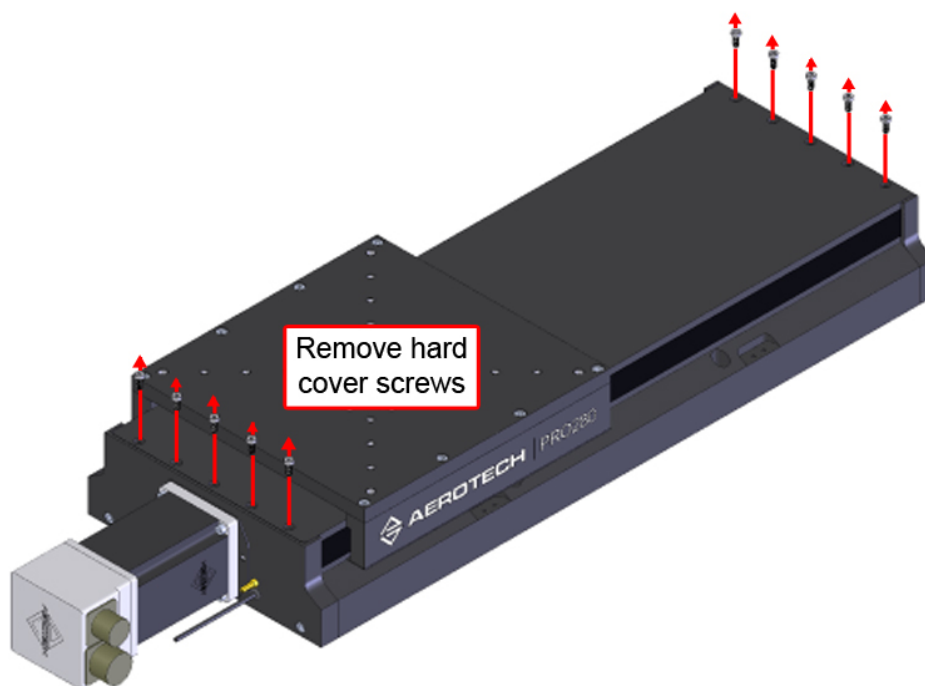
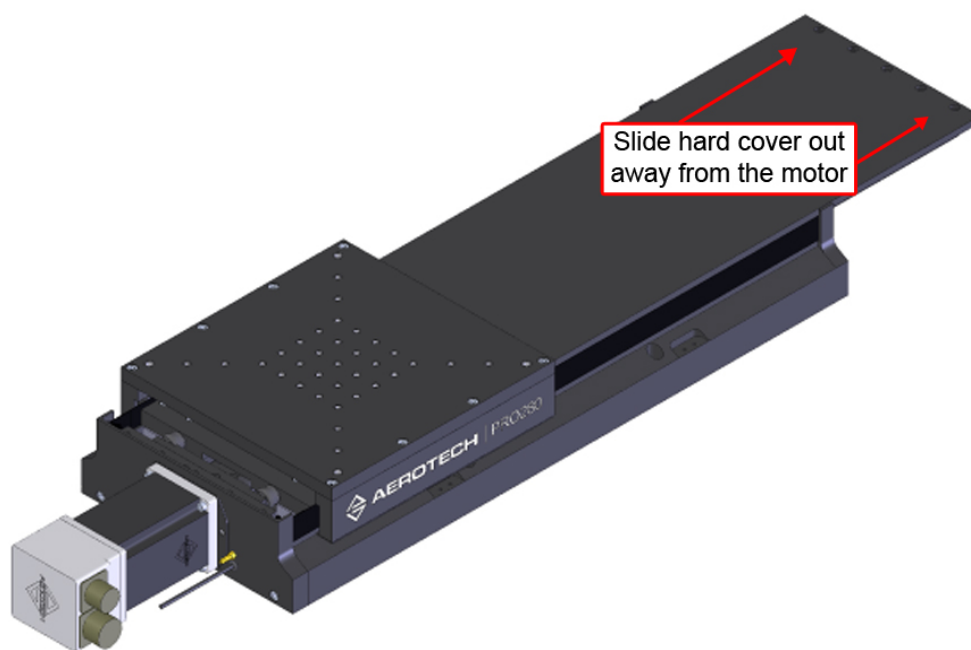

Figure 4-2: Hardcover Removal Procedure (Step 2)
Figure 4-3: Hardcover Removal Procedure (Step 3)
2. Remove the screws on the edges of the hard cover (Figure 4-2) and slide it out from the side opposite of the motor (Figure 4-3). This can be done without removing the table.